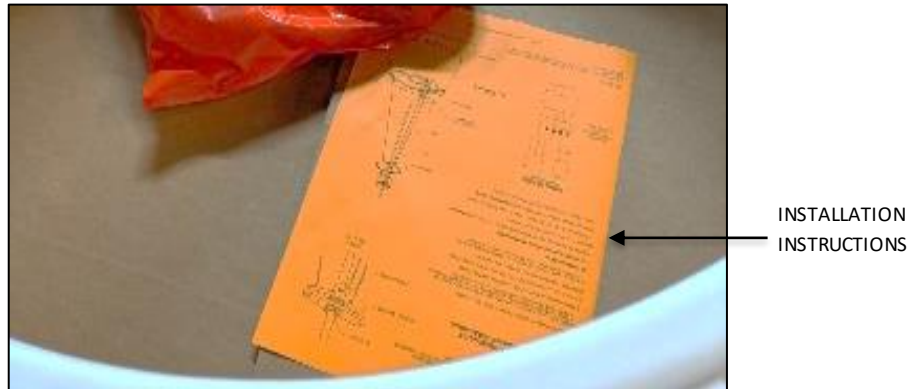

FIG.3 - INSTALLATION INSTRUCTIONS
2. INSTALLATION INSTRUCTIONS (shown in FIG. 3) - Please completely read the install instructions before starting installation.